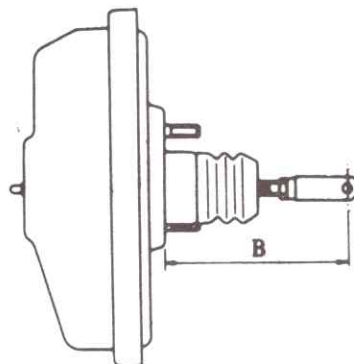

Fig. 9.7 Brake pedal-to-vacuum servo unit pushrod setting dimension (Sec 15)
7 Now check the length (B) of the pushrod which connects with the brake pedal (see Fig. 9.7). Adjust if necessary by turning the clevis fork after having released the locknut.